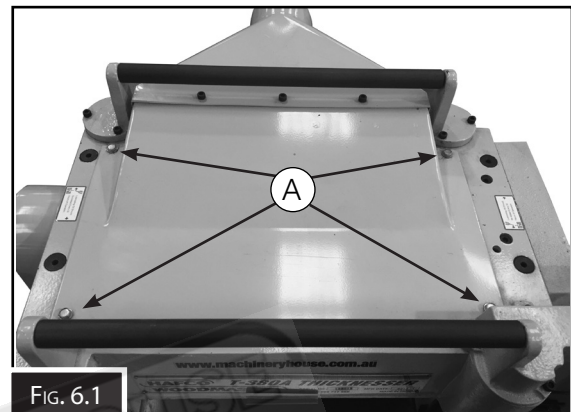

FIG. 6.1
2. Remove headstock cover to expose the cutter head. Remove the six screws (A), and remove the upper cover (B) as shown in Fig. 6.1.